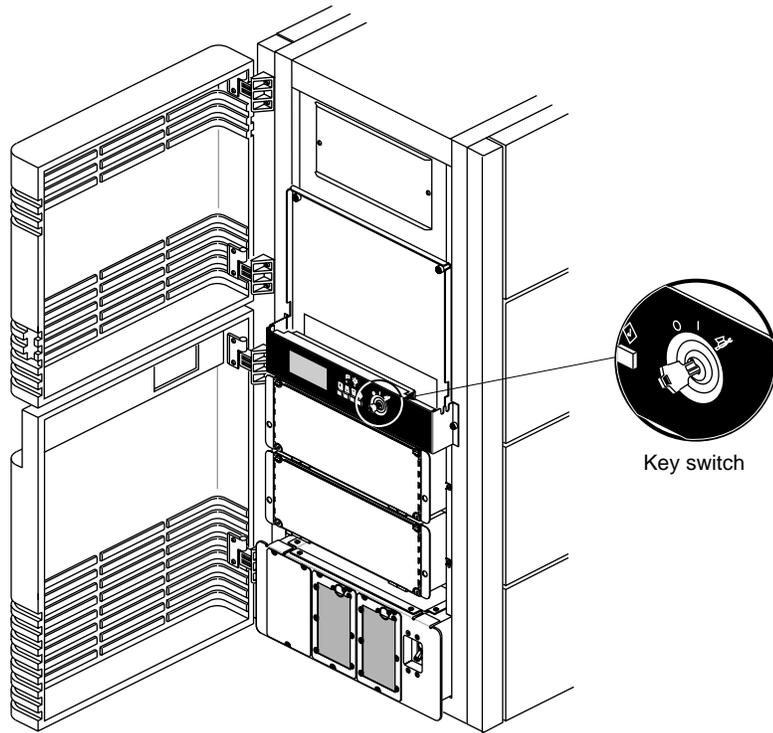

Figure 3-10 System Controller Key Switch
3. Insert the system key into the key switch, located to the right of the System Controller's display. Turn the key switch to the On position (see Figure 3-10).